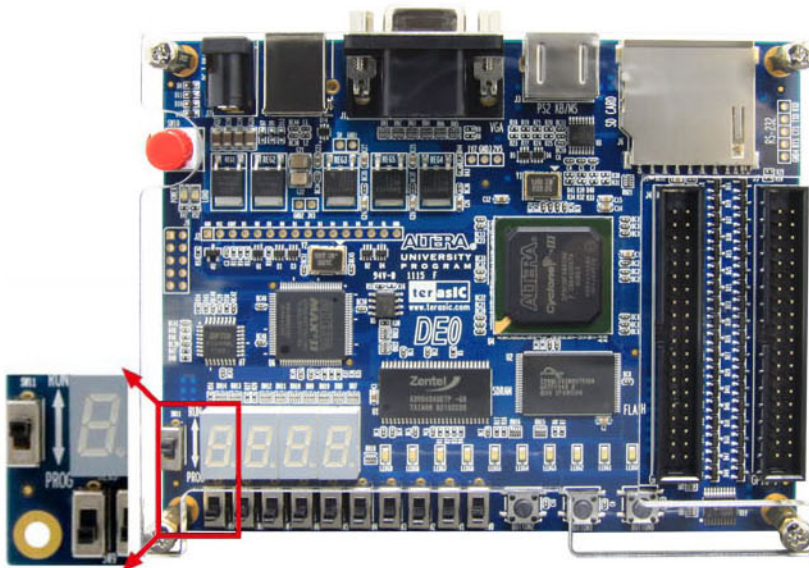

Figure 4-2. The RUN/PROG switch (SW11) is set in JTAG mode
- Configure the JTAG programming circuit by setting the RUN/PROG switch (see Figure 4-2) to the RUN position.